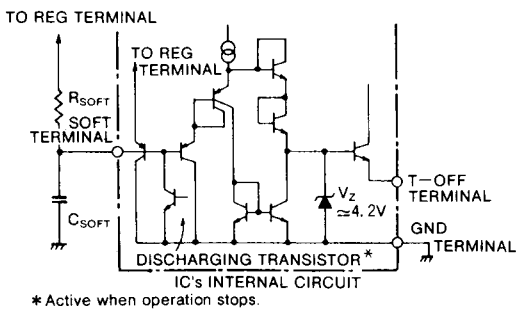

Fig.6 Circuit diagram of SOFT terminal section and T-OFF terminal section
- ① It is ideal for primary control as IC driving current is supplied from the third winding of the main transformer at the start-up because constant ON duration is obtained from start-up.
- ② It is possible to get a wide dynamic range for ON/OFF ratio by pulse-by-pulse current limit circuit.
- ③ The response characteristics at power-on is not affected by input voltage as the pulse-by-pulse limit current value is not affected by the input voltage.
Fig. 6 shows the circuit diagram of the soft start. If SOFT terminal voltage is low, T-OFF terminal voltage becomes low and V_{T-OFF} in equations (3) and (4) become low.